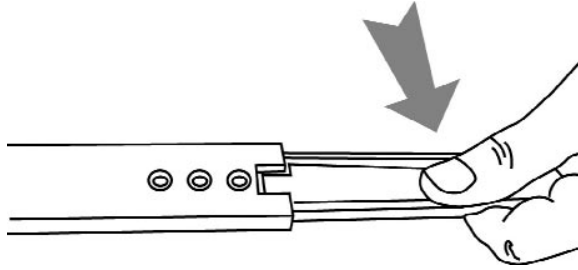

Figure 46 Remove Slide Rail
- (1) Pair Accuride Slide Rails
Step 1. Remove inner slide rail as shown in FIGURE 46. Press down on latch to release.